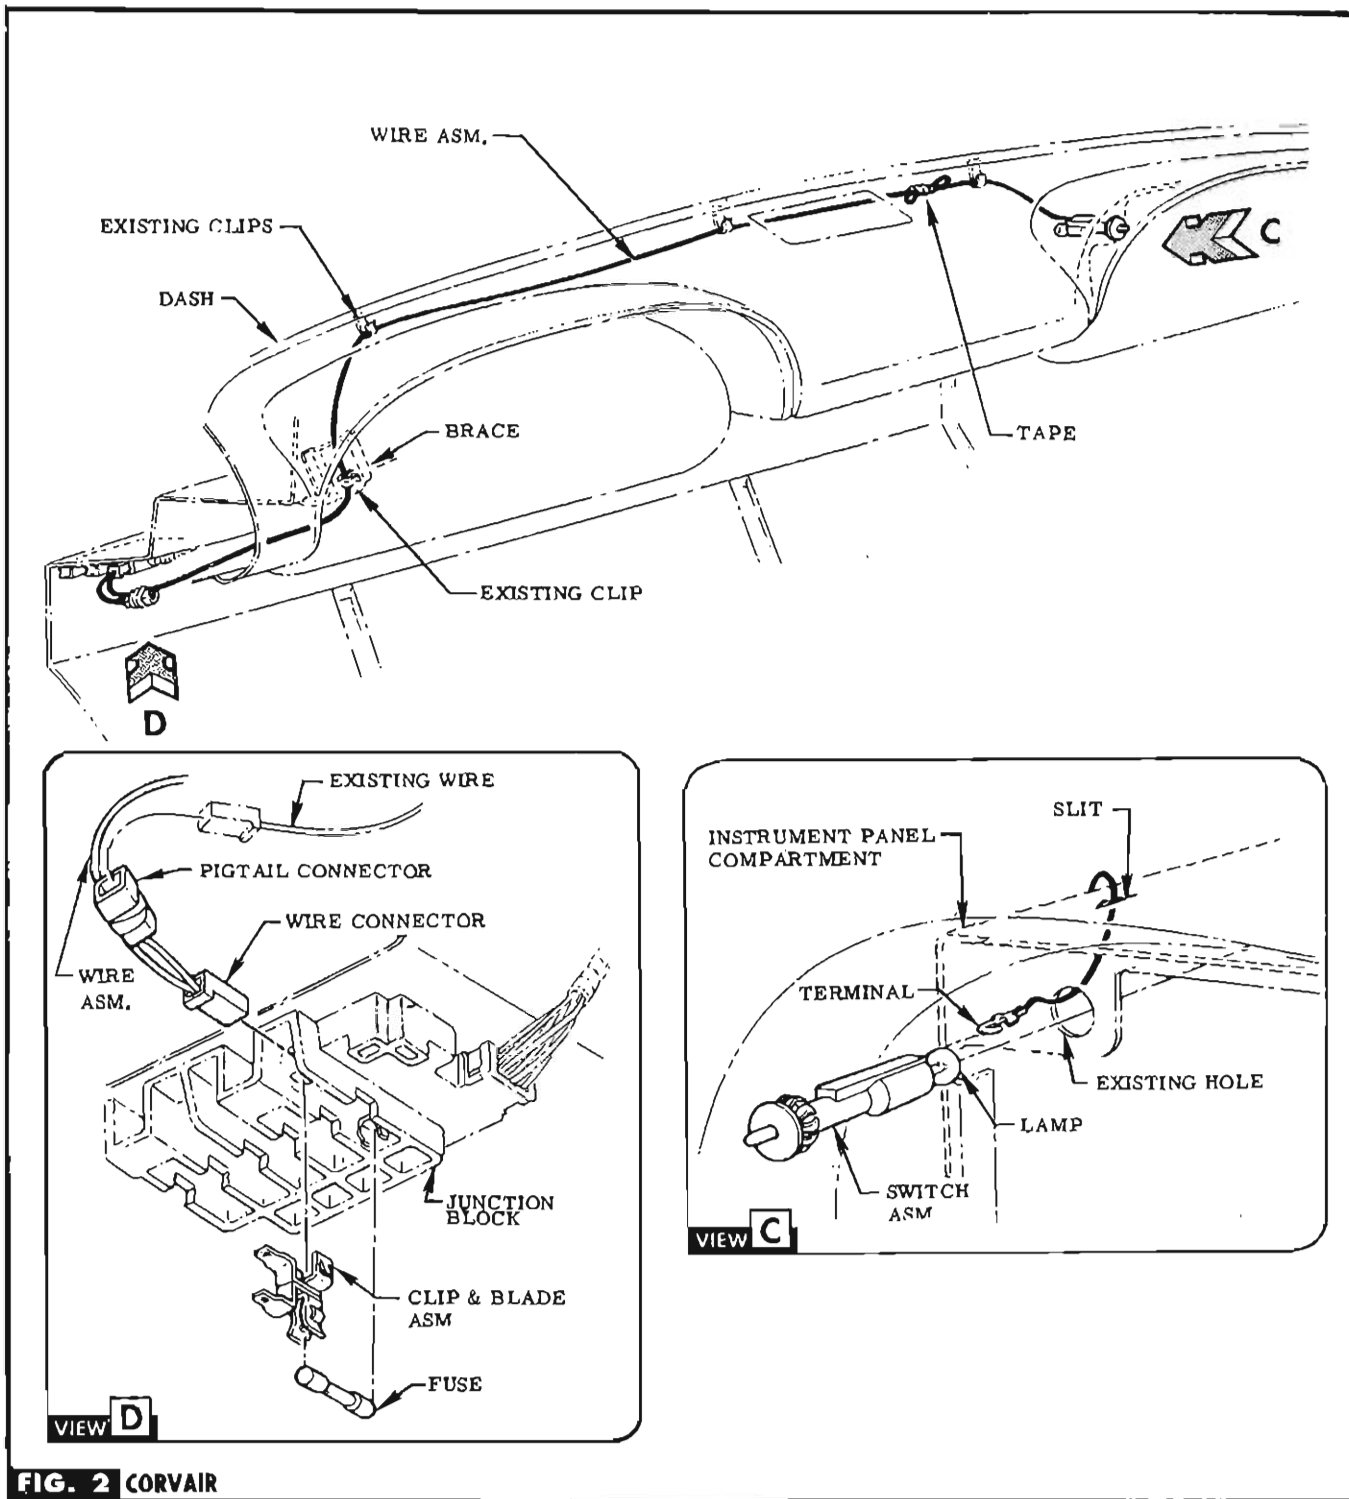
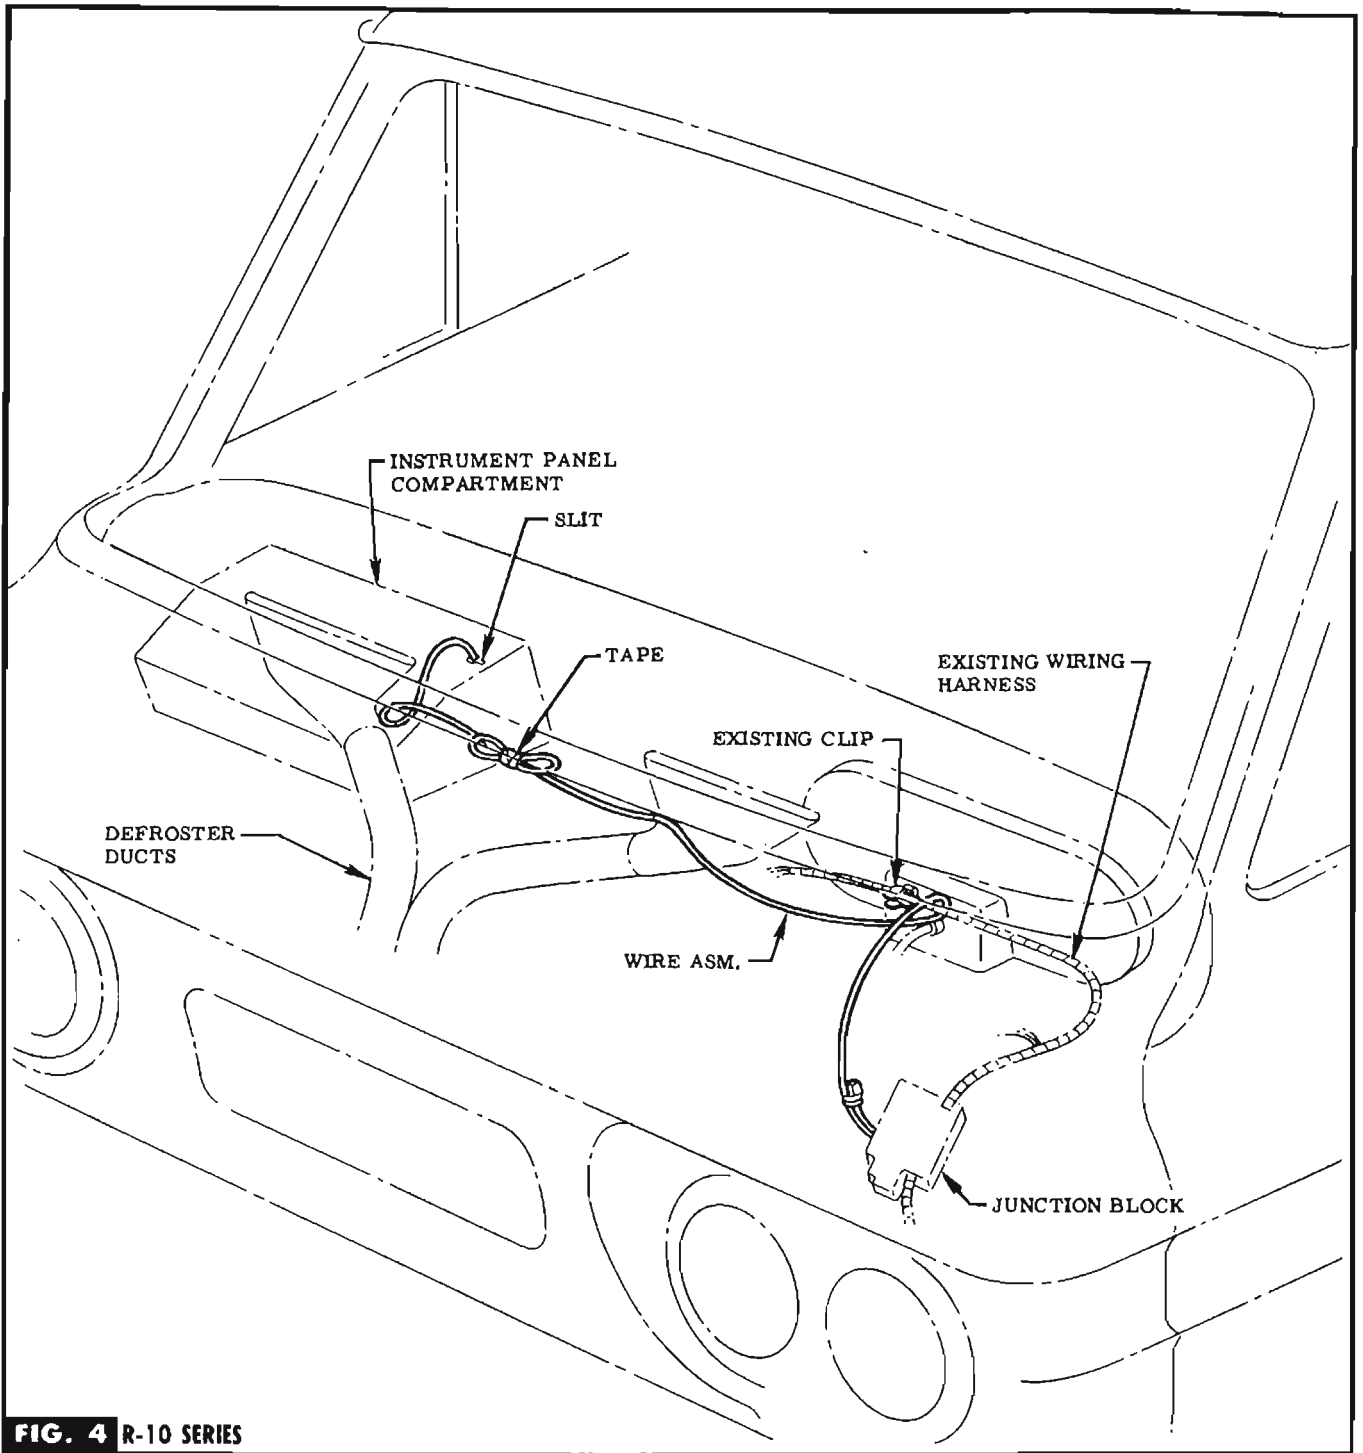

FIG. 2 CORVAIRE
FIG. 4 R-10 SERIES
STEP 1a ROUTE WIRE TERMINAL THRU SLIT IN UPPER LEFT HAND CORNER OF INSTRUMENT PANEL COMPARTMENT & THRU HOLE IN UPPER LEFT SIDE OF COMPARTMENT OPENING. SEE FIG. 2 & VIEW C.
JUNCTION BLOCK. SEE FIG. 2.
STEP 5a LOOP & TAPE EXCESS WIRE. SEE FIG. 2.
STEP 4b PRESS CLIP & BLADE INTO RECEPTACLE MARKED "GL. BOX LP.", INSERT FUSE & CONNECT WIRE. SEE VIEW D, FIG. 2. **NOTE** If receptacle is occupied, remove existing wire & connect to jumper wire. Discard clip & blade asm. & fuse.
STEP 1c ROUTE WIRE TERMINAL THRU SLIT IN UPPER LEFT HAND CORNER OF INSTRUMENT PANEL COMPARTMENT & THRU HOLE IN UPPER LEFT SIDE OF COMPARTMENT OPENING. SEE FIG. 4 & VIEW C, FIG. 2.
STEP 2c ASSEMBLE WIRE TERMINAL TO SWITCH. INSERT LAMP & PRESS SWITCH INTO POSITION. SEE VIEW C, FIG. 2.
HARNESS ALONG SIDE OF EXISTING CLIP. SEE FIG. 4.
STEP 4c PRESS CLIP & BLADE INTO RECEPTACLE MARKED "GL. BOX LP.", INSERT FUSE & CONNECT WIRE. SEE VIEW D, FIG. 2. **NOTE** If receptacle is occupied, remove existing wire & connect to jumper wire. Discard clip & blade asm. & fuse.
STEP 5c LOOP & TAPE EXCESS WIRE. SEE FIG. 4.